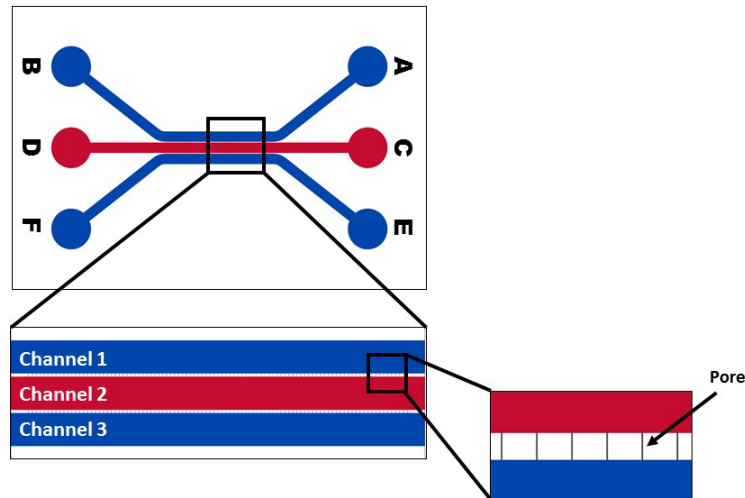

Figure 1. A schematic of inlet and outlet ports A-F on a typical SynVivo linear device.
1. Place approximately 1-inch (2.54 cm) long segments of Tygon tubing into the outlet ports of the device (Ports B, D, F; **Figure 1**).